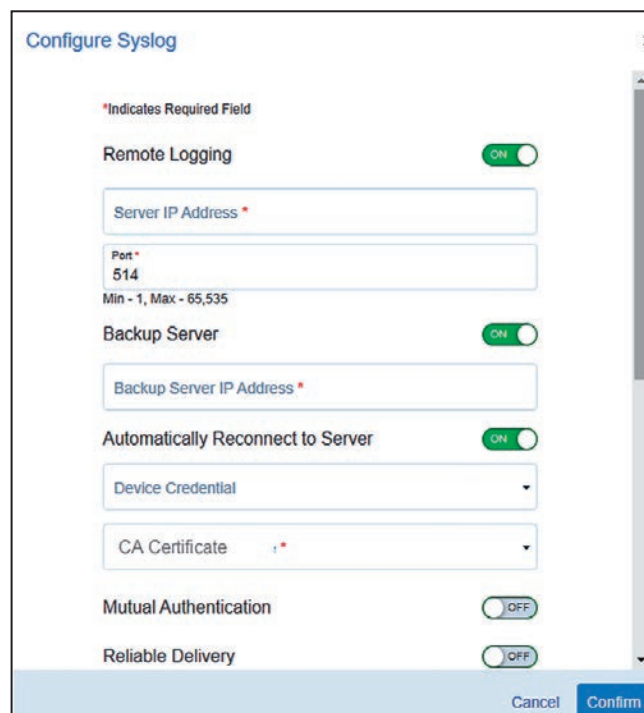

Figure 47. Upper section of the Configure Syslog dialog box.
- STEP 3.** Click on the blue **Confirm** button to enable the **Remote Logging** feature. The Configure Syslog dialog box appears. See Figure 47.